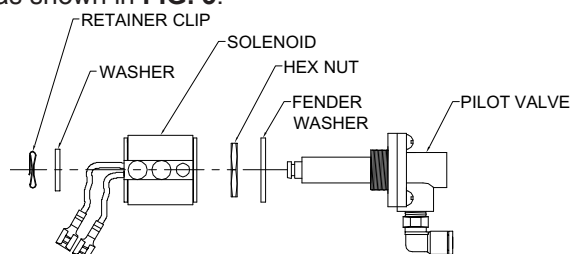

FIG. 3a
3. Install pilot valve as shown in **FIG. 3a, 3b, and 3c**.